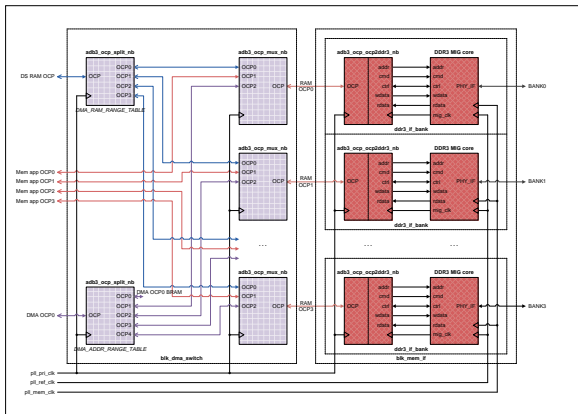

Figure 22: Uber Memory Interface Block Diagram
**Figure 22** shows the on-board memory interface block and its associated part of the **OCF switching block**.